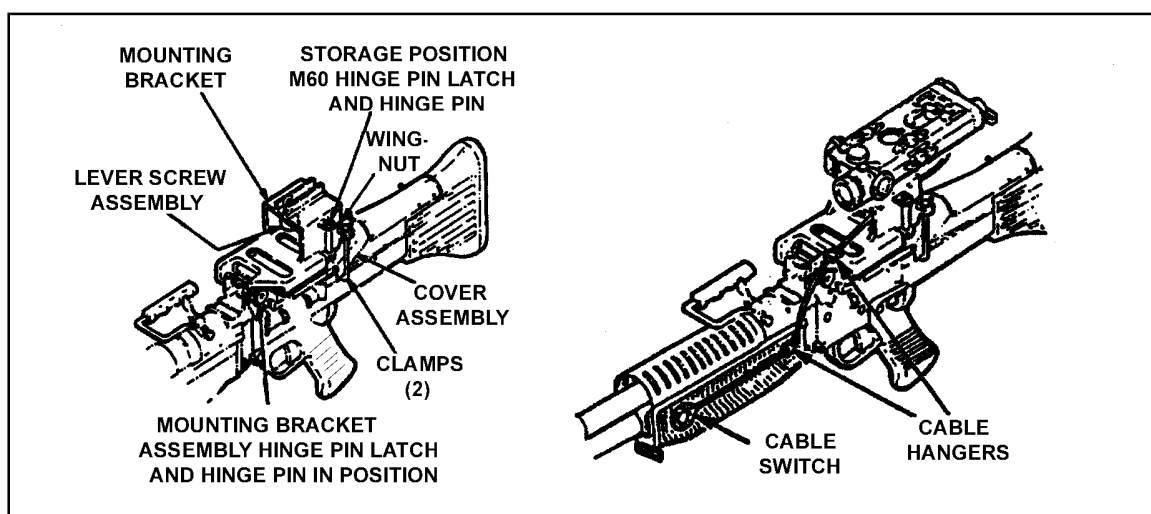

Figure G-19. Mounting the AN/PEQ-2A to the M60 machine gun.
(1) Remove the M60 hinge pin latch and hinge pin from the cover assembly. Place the pin latch in the aiming guides on the left side mounting bracket and press together.
(2) Place the mounting bracket on top of the machine gun cover so that the holes in the front of the bracket align with the cover assembly pinholes.
(3) Insert the longer hinge pin supplied with the bracket through the bracket and cover assembly and secure by inserting the hinge pin latch.
(4) Turning counterclockwise loosen the wing nuts on both leg clamps and position the leg clamps under the cover assembly. Secure the mounting bracket by tightening the wing nuts firmly. The split washer should be next to the wing nut and the flat washer next to the bracket.
(5) Place the bracket adapter in the AN/PEQ-2A mounting groove flush with the front of the AN/PEQ-2A. Tighten the thumbscrew clockwise.
(6) Position the AN/PEQ-2A with the bracket adapter on the M60 mounting bracket mounting groove. Align the front edge of the bracket adapter and the front edge of the groove. Tighten the lever screw assembly (Figure G-19).